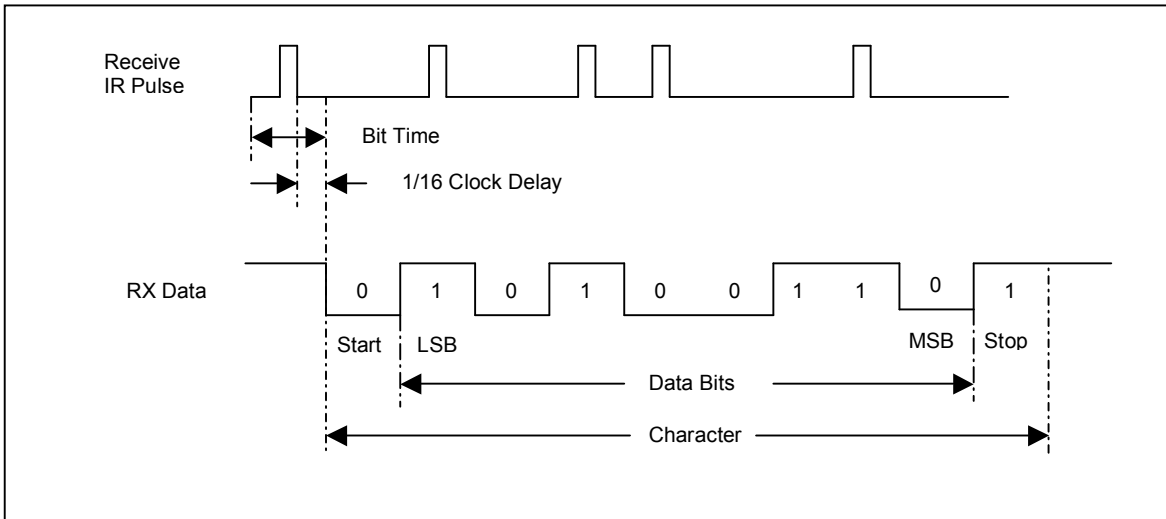

Figure 7.1 Standard Infrared Receive Data Encoding
In this lab you will design a Slow Infra Red (SIR) data link following the IrDA 1.0 specifications. The goal is to use this interface to transmit and receive messages from/to another group in your lab session. The messages will be typed and displayed on the console. You will combine both the DRAGON12 and the Altera (Verilog) in your design. Figure 7.1 through 7.3 show the IrDA 1.0 method for transmit and receive data encoding.
1. The Altera will handle infrared data transmission/reception following the IrDA 1.0 transmit and receive data encoding methods shown in Figure 7.1.